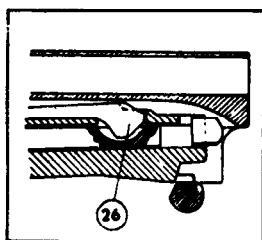
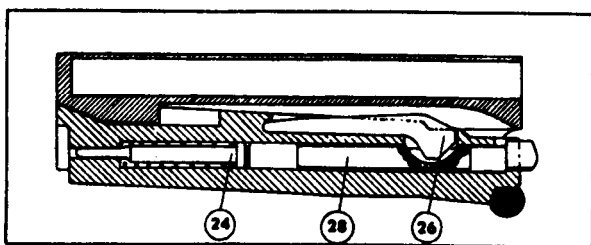

Fig. 15.
Fig. 16.
2° The second safeguard is performed by means of a firing pin stop (26) which prevents the striker to protude in the face of the bolt so long as the locking of the rifle is not performed, as the bolt carrier prevents any motion of the firing pin stop upwards (see fig. 15). On the contrary, when the rifle is locked, the firing pin stop is allowed to raise and does no more prevent the motions of the firing pin (see fig. 16).